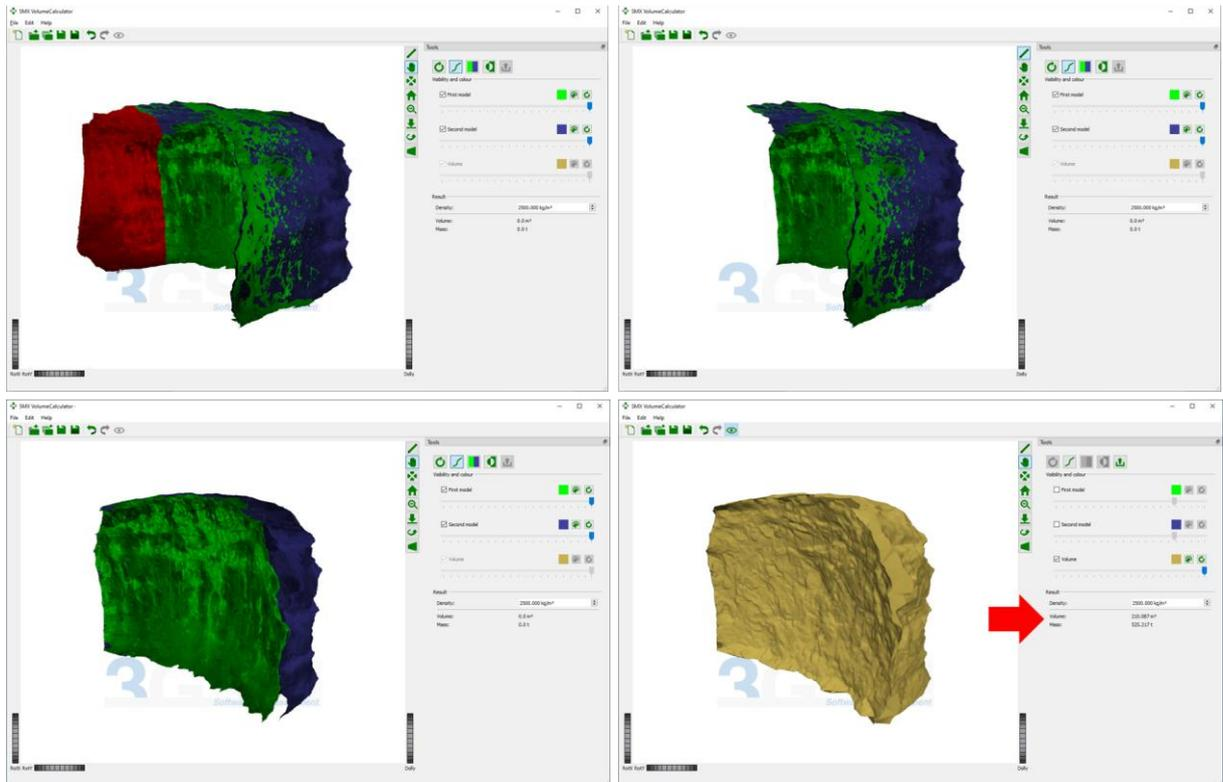

Figure 13: Top left: Region to delete enclosed by a polygon- Top right: Trimming of the 3D model. Bottom left: Trimmed 3D models. Bottom Right:
- c. Enclose the region to delete by dragging the cursor across the 3D model while keeping the left mouse button pressed. After releasing the mouse button, the selected region is highlighted in red (Figure 13).